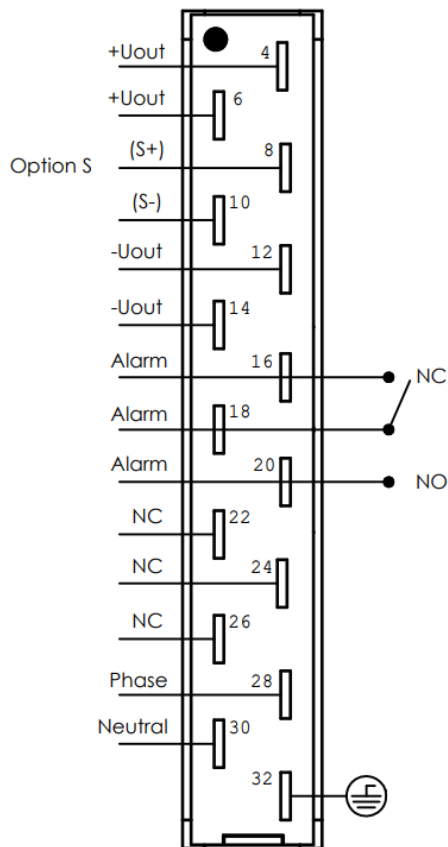

Figure 2 Standard H15 connector pinout
- Connector pinning, see figure 2, page 3.